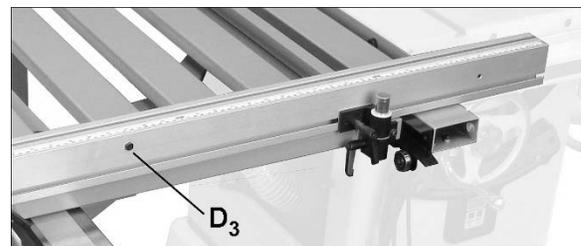
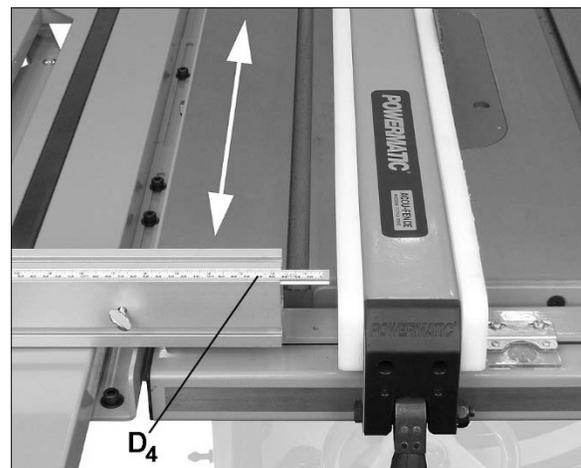

Figure 8-2
Figure 8-3
3. With fence mounted in front position, loosen screw (D3, Figure 8-2) and slide fence scale (D4, Figure 8-3) until it almost contacts rip fence/straight edge.